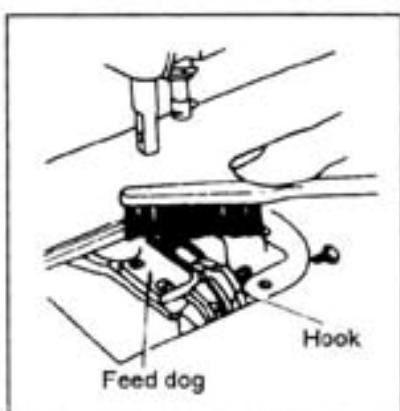
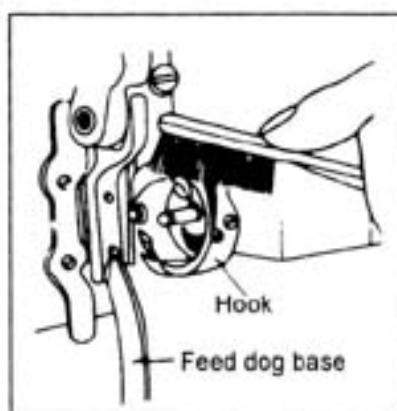
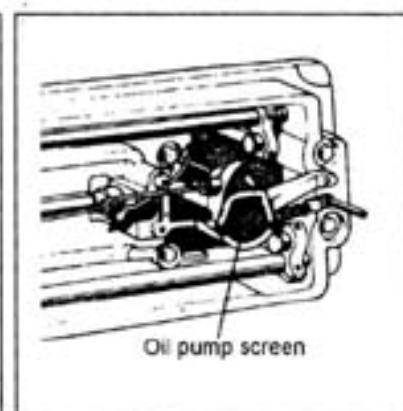

Fig.13
Fig.14
Fig.15
14. Periodical cleaning (Fig.13, Fig.14, Fig.15):